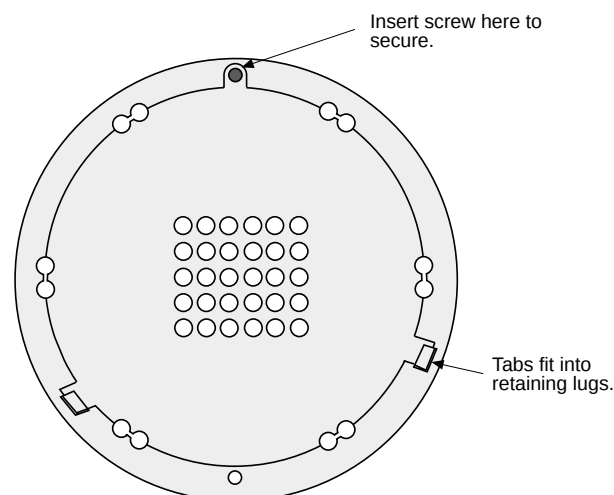

Figure14
- (1) Rotate the motor cover through 180° .
- (2) Insert the edge of the motor cover into the tab on the bottom plate.
- (3) Secure the motor cover by screwing it to the bottom plate (See Figure 14)